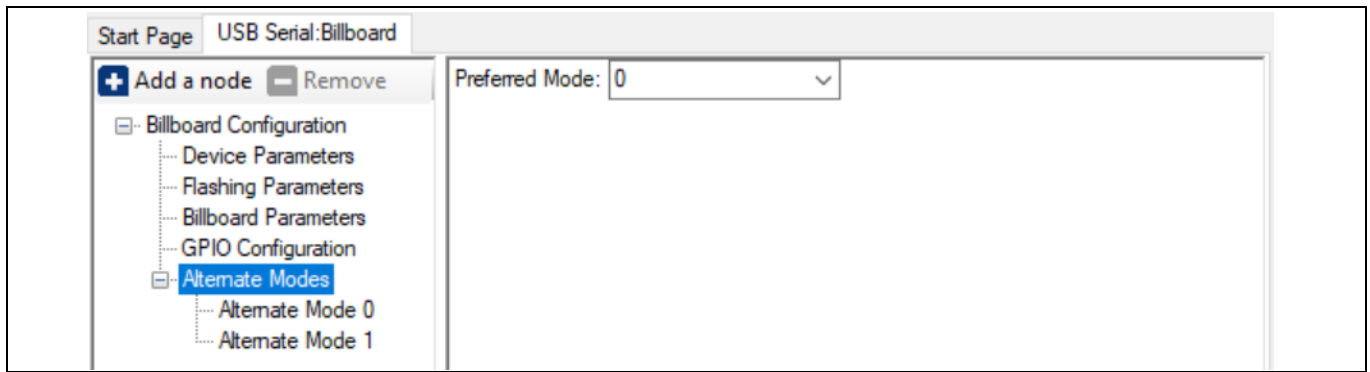

Figure 66 Alternate modes in Billboard
- **Preferred Mode:** Preferred alternate mode. Select the mode from drop-down list as shown in Figure 66 (only one can be preferred mode).